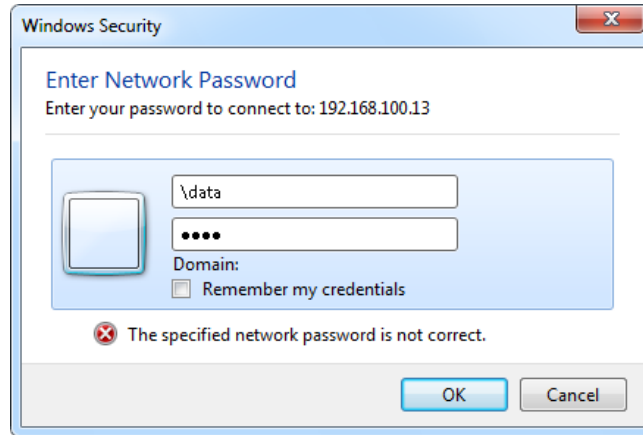

Fig. 8-4 Login dialog.
- ➔ Note that Windows assumes that you want to log onto the current domain (if you are a member of a domain). In this case you must specify \data to bypass the prefixed domain (Fig. 8-4).
Then, you obtain, as in the first case, the login dialog (Fig. 8-4), in which you have to enter the user name **data** and password (**ginsdata**). Use **data** as password for older controllers with firmware 1.xx B0x. Then the internal memory is shown as hd0 on the drives of your PC.